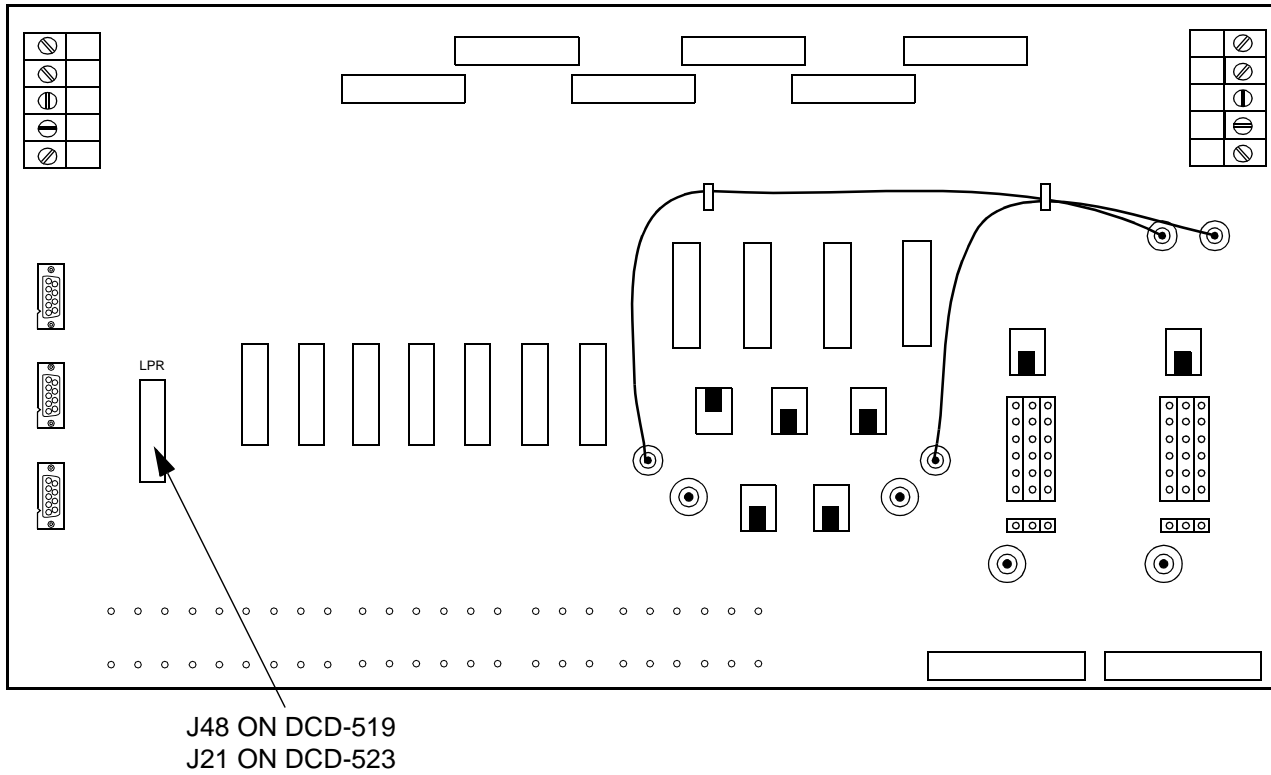

Figure 45. DCD-519 or DCD-523 Shelf Backplane
4.47 Connect one end of the cable to connector to J48 (LPRS) on the DCD-519 Shelf or to J21 (LPRS) on the DCD-523 Shelf (Figure 45).